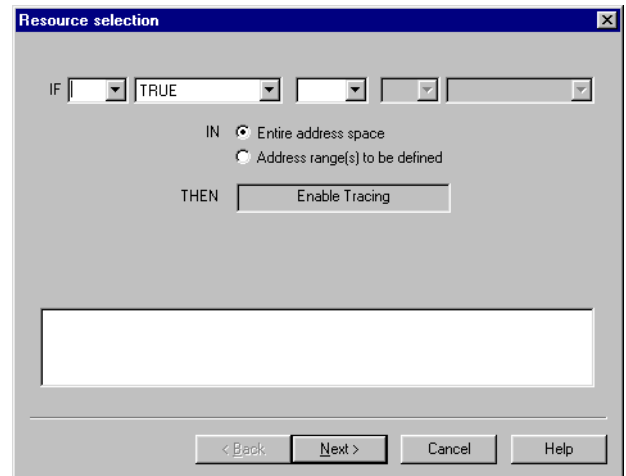

Figure 8-28 Resource selection for Enable Tracing
2. Double-click **Enable Tracing** in the Actions list to define a rule. The Enable Tracing Resource selection dialog box shown in Figure 8-28 is displayed.